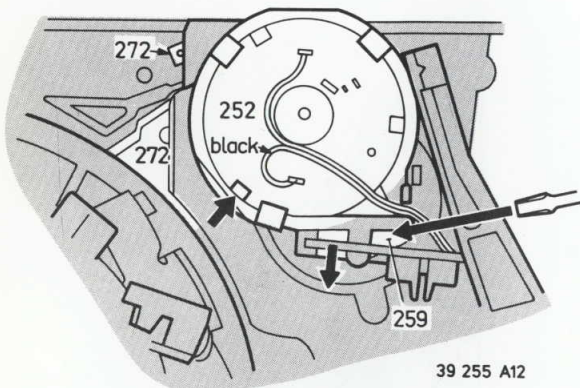
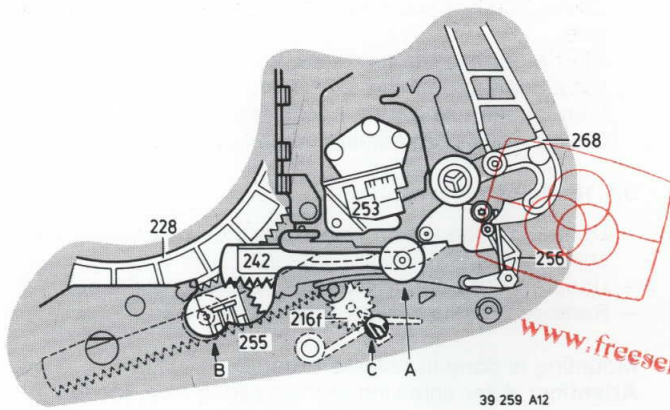
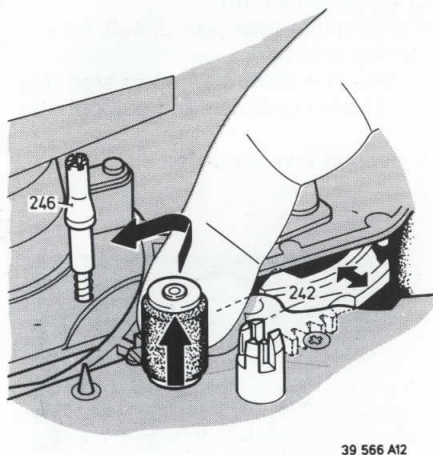
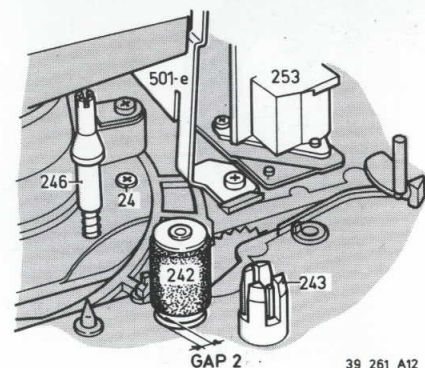

Fig. 3-1-11
Fig. 3-1-13
Fig. 3-1-14
Fig. 3-1-16
- Unsolder the connecting wires of the motor (Fig. 3-1-11).
- Thread in until the pressure roller is in pos. A (Fig. 3-1-13). Use a 9 Volt battery (small type) on the threading motor or moving the crank drive pos. 259 by hand using a screw driver Fig 3-1-11.
- Push the stop lever C (Fig. 3-1-13) forward through the hole in the top plate and push the gearwheel pos. 216-f down.
- Slide the pressure roller toward the left in pos. B, (Fig. 3-1-13) hook it under the flange and slide it further up to the stop (Fig. 3-1-14).
- Quickly slide the pressure roller backwards and then to the left, lifting the left-hand slide until the pressure roller is past the lug (Fig. 3-1-14).
- Lift gearwheel with tweezers when the pressure roller is back in pos. A, (Fig. 3-1-13) again (slightly move the pressure roller while doing so). Check that the position of the pressure roller is correct relative to the threading-in ring.
- Thread the pressure roller out to pos. B (Fig. 3-1-13). In end pos. B, the pressure roller should have some play. GAP2 (Fig. 3-1-16).
- The pressure roller is in position B (Fig. 3-1-13) with play and the swivel wheel can be moved in the end position with play.